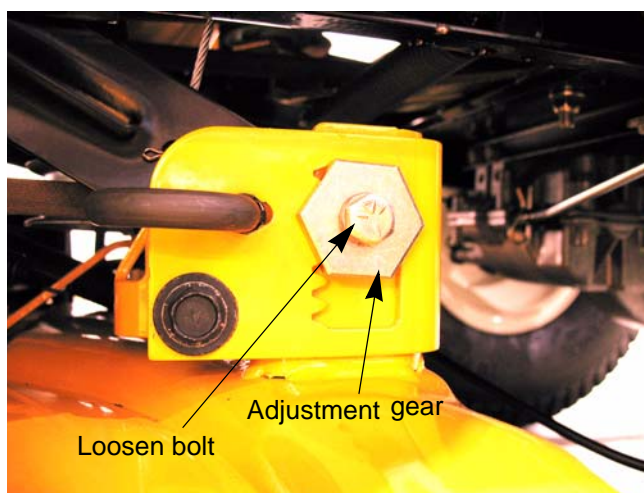

Figure 8.31
3. Working from the left side of the tractor, loosen, but do not remove, the bolt on the left deck hanger bracket. See Figure 8.31.
4. To level the deck turn the adjustment gear, located immediately behind the bolt, clockwise (rearward) to raise the left side of the deck. Turn the gear counter-clockwise (toward front) to lower the left side of the deck. See Figure 8.31.